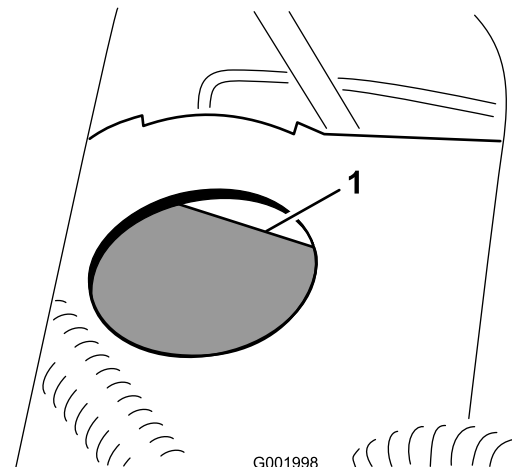

Figure 61
- The fluid level should be up to the Full line on the reservoir (Figure 61).